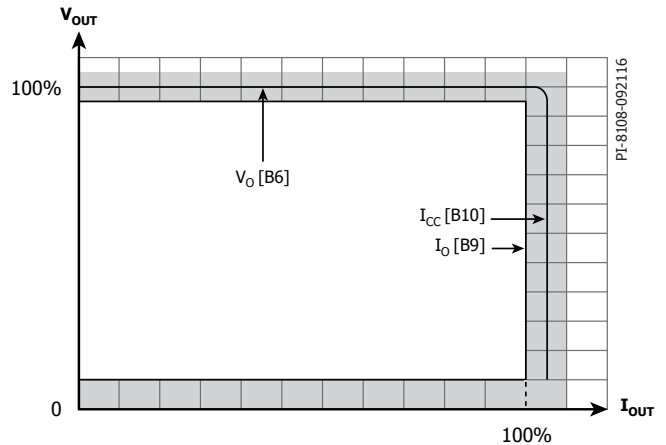

Figure 4. VI Curve With Parameter Positions Identified.
- Enter the minimum required output current value, I_o [B9]. Notice that cell [E10] is updated with a suggested minimum CC value for ICC. See Figure 4.
- Enter the required CC limit, ICC [B10], if it is higher than the suggested minimum I [E10]. See Figure 4.
This is the nameplate current and is the current that must be supplied at the nameplate voltage, before the VI curve follows the decreasing voltage CC characteristic. It is the output current level at which efficiency measurements are taken. See Figure 4.